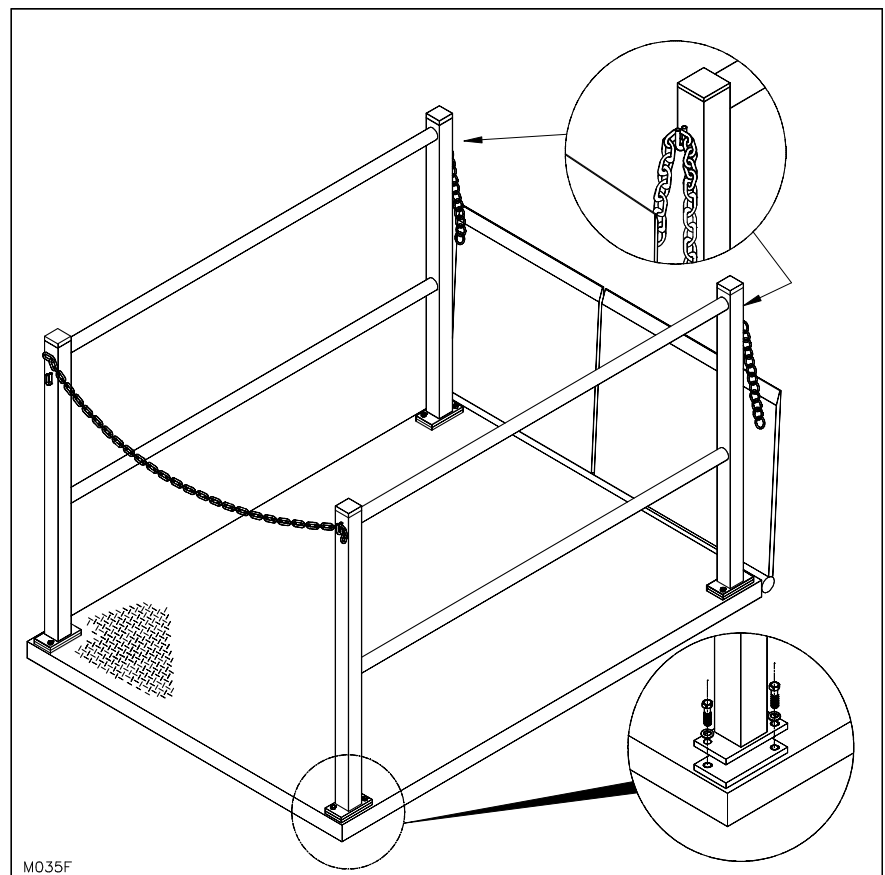

Figure 6: Guard Rail Installation
16. Install the guard rails as shown in "Figure 6: Guard Rail Installation" on page 8. In some applications such as full depth pits, platform mounted guard rails may create a potentially hazardous condition by creating a pinch point between the guard rail horizontal bars and the edge of the pit floor. It may be necessary to provide protection around the perimeter of the pit. Consult local building codes.